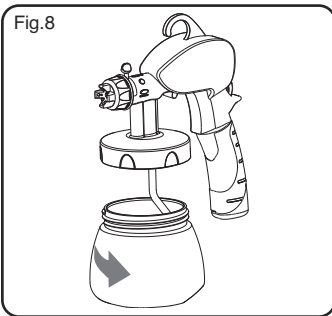
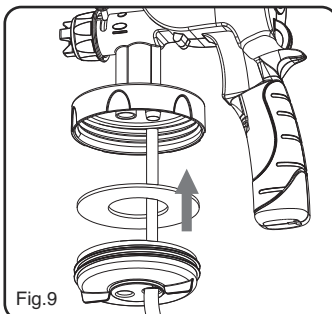

Fig.8
Fig.9
- 2) Unscrew the Paint Pot (12) (Fig.8) and remove the Rigid Pick-Up Tube (11) from the spray gun (Fig.8) and then insert the bare end of the 4m paint tube through the Spray Gun Connector Assembly (10) and fit it over the inlet (this is the one with the smaller aperture on underside of the gun) (Fig.9).
- 2) Fit the Rigid Pick-Up Tube (Fig.9) and paint container to the gun (for first time use, the gun already comes supplied like this).